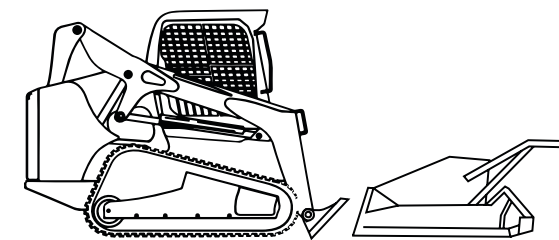

Figure 4.2a Mulcher Mounting
2. Tilt the skid steer loader quick attach coupler slightly down and drive forward to the rear of the mulcher until the top edge of the quick attach coupler connects into the attachment bracket. See figure 4.2a.